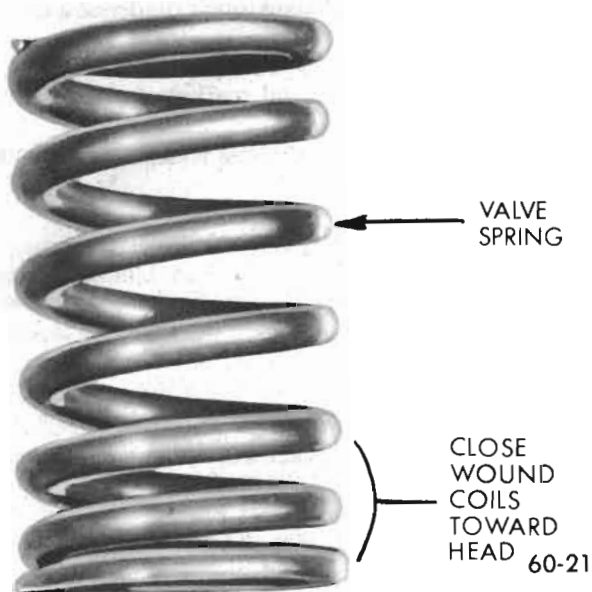

Figure 60-10 - Valve Spring
6. To replace, set the valve spring and damper, valve shield and valve cap in place. **THE CLOSE COILED END OF THE SPRING IS INSTALLED AGAINST THE CYLINDER HEAD.** See Figure 60-10. Compress the spring with J-22891 and install oil seal in the lower groove of the stem, making sure the seal is flat and not twisted.
12. Lube with "Service MS" engine oil and reinstall valves, valve springs, cap, oil seal, and cap retainer, using same equipment used for removal. Install valve spring with closely wound coil toward the cylinder head. See Figure 60-10.